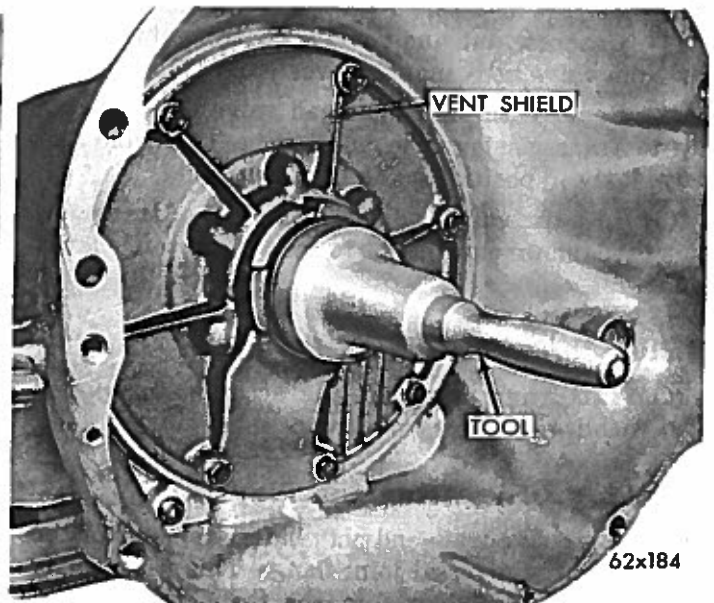

Fig. 43—Installing Front Pump Oil Seal (Tool C-3860)
(2) To install new seal, place seal in opening of pump housing (lip side facing inward). Using Tool C-3860, drive seal into housing until tool bottoms (Fig. 43).